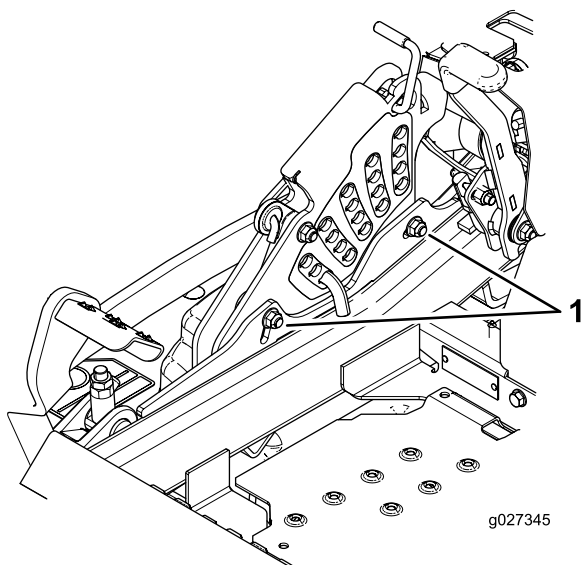

**Figure 98**
10. Fine-tune the adjustment nut on the front deck-lift assembly by turning it (Figure 98).
16. Fine tune the screw adjuster by turning it to get 8.3 mm (3-1/4 inches) height (Figure 98).